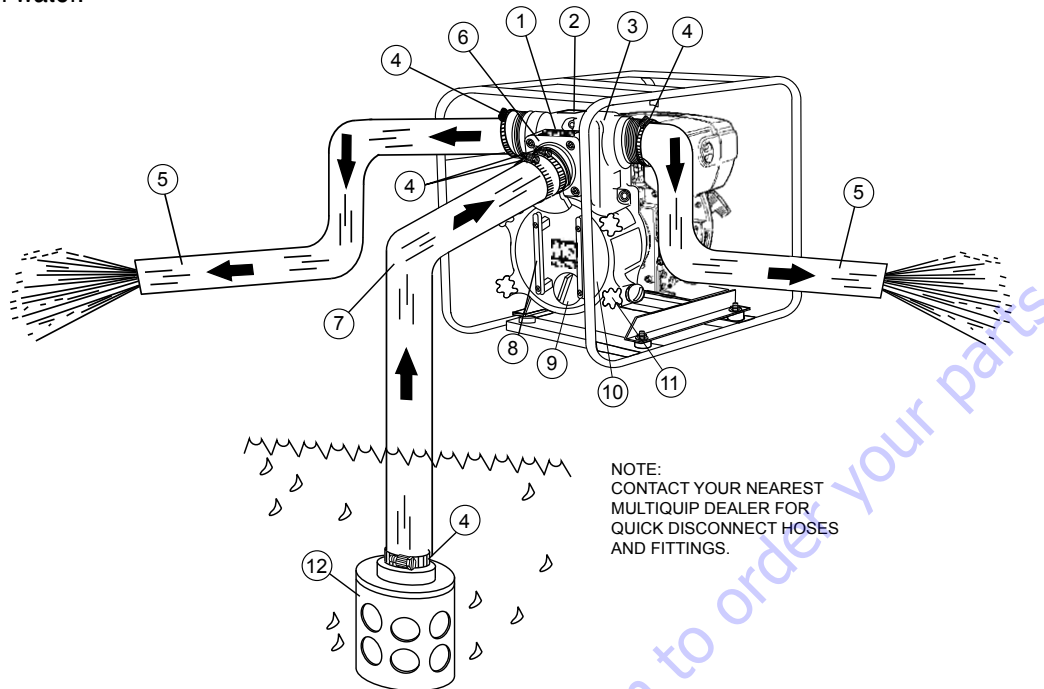

Figure 3. QP4TZ Pump Application
Figure 3 shows a typical application using the QP4TZ centrifugal pump. Please note that this pump is intended for the removal of clean water.
2. To prime pump, remove fill cap (See Figure 3) and fill pump casing with water. If the pump casing is not filled with water before starting, it will not begin pumping.
3. Attach suction and discharge hoses to the pump. Check that all hoses are **securely** attached to the pump. Make certain suction hose (See Figure 3) does not have any air leakage. Tighten hose clamps and couplings as required.
6. Check that the **discharge** hose (See Figure 3) is not restricted. Place hose so that it lays as straight as it is possible on the ground. Remove any twists or sharp bends from hose which may block the flow of water.
8. Make sure the **suction strainer** (See Figure 3) is clean and securely attached to the water end of the suction hose. The strainer is designed to protect the pump by preventing large objects from being pulled in to the pump.